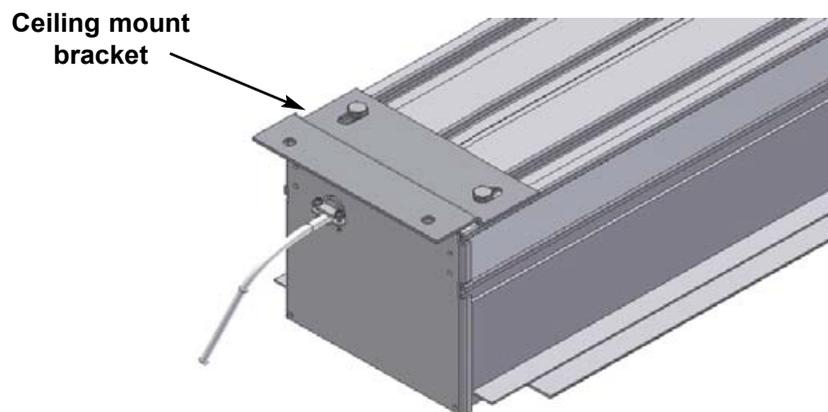

Figure 5: Flat ceiling mount bracket
- ▶ Flat ceiling mount brackets. Refer to Figure 5.